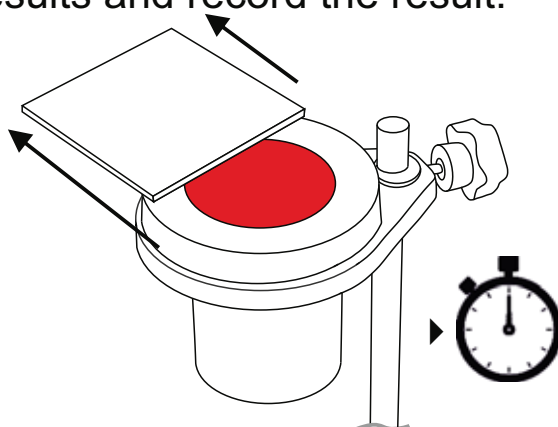

Figure 4
- 7 Remove the glass plate and start the stopwatcha (Figure 4).